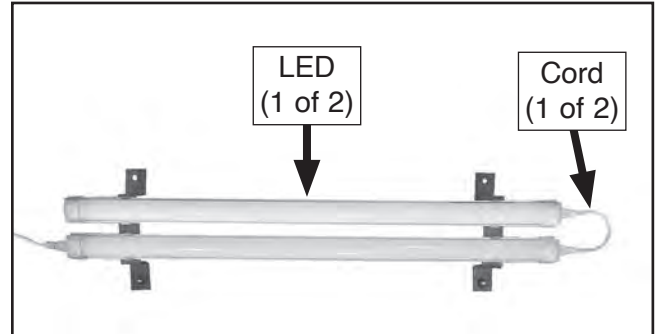

Figure 41. Cords attached to LEDs (control box removed for clarity).
4. Turn LED assembly over so lights face up (see **Figure 41**).
5. Disconnect any cords attached to LED you want to replace, and remove LED (see **Figure 41**).